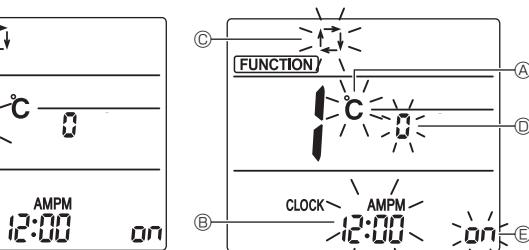
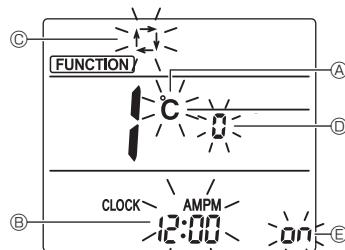

Fig. 5-11
Fig. 5-12
- Press the **OFF/ON** button ① to stop the air conditioner.
- Press the **MENU** button ②.
- The Function setting screen will be displayed and the function No. Ⓐ will flash. (Fig. 5-11)
- Check that function No. "1" is displayed, and then press the **SET** button ③.
- The Screen display setting screen will be displayed. (Fig. 5-12)
- Press the **↑ ↓** button ④ to change the function No.
5.10.2. Changing the temperature unit (Fig. 5-12 Ⓐ)
- Press the **TEMP** button ⑤.
- Each time the **TEMP** button ⑤ is pressed, the setting switches between **°C** and **°F**.
5.10.3. Changing the time display (Fig. 5-12 Ⓑ)
- Press the **TIME** button ⑥.
- Each time the **TIME** button ⑥ is pressed, the setting switches between **12:00** and **24:00**.
5.10.4. Changing the AUTO mode (Fig. 5-12 Ⓒ)
- Press the **—** button ⑦.
- Each time the **—** button ⑦ is pressed, the setting switches between **—** and **±**.
5.10.5. Changing the pair No. (Fig. 5-12 Ⓓ)
- Press the **↑ ↓** button ④.
- Each time the **↑ ↓** button ④ is pressed, the pair No. 0~3 changes.
- Press the **ON/OFF** button ⑧.
- Each time the **ON/OFF** button ⑧ is pressed, the setting switches between **on** and **off**.
- Press the **SET** button ③.
- The function No Ⓐ blinks (Fig. 5-11)